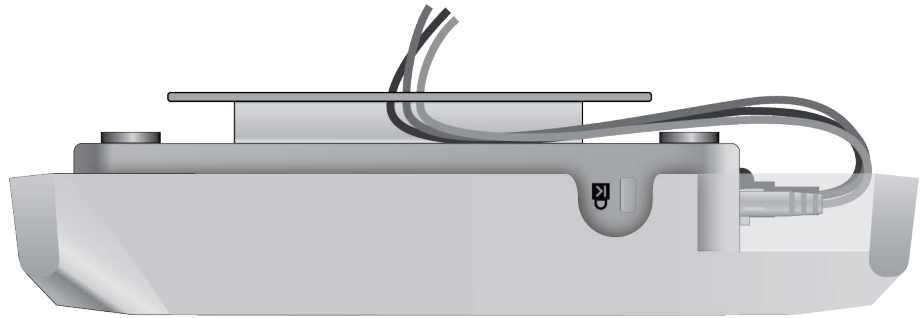

Figure 27. Fitting the Cables in the Cable Hide
4. Place the Ethernet cable(s) and power cable (if any) along the cable guides inside of the top cover in the cable hide space. See Figure 27.